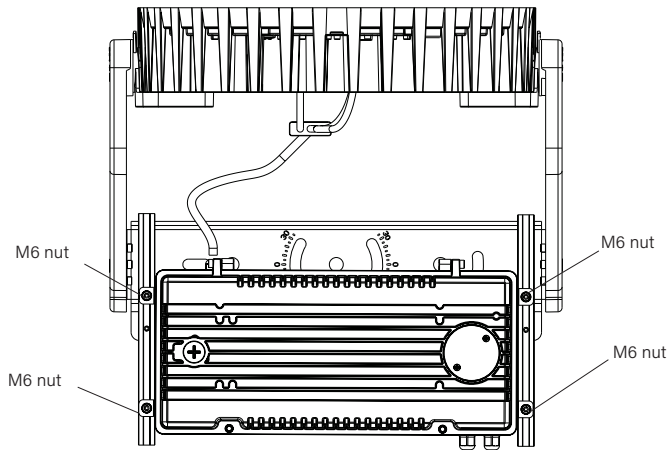

Figure 24
- Loosen the (4) M6 nuts from the driver box, as shown in Figure 24.